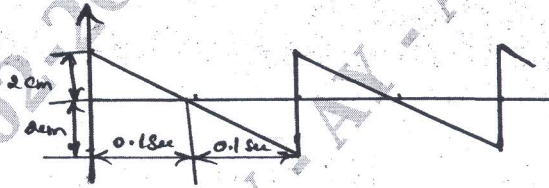

Fig.Q1(b)
- Represent the periodic motion given in the Fig.Q1(b) by harmonic series. (08 Marks)